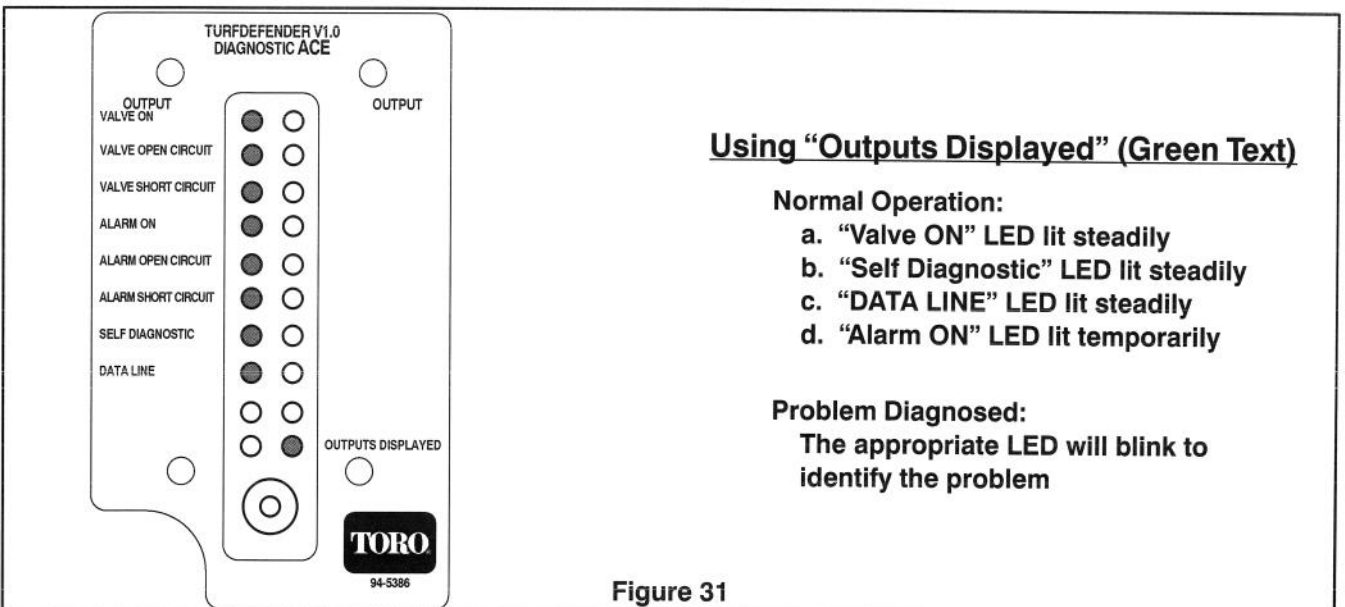

Figure 31
2. Press toggle button until green "Outputs displayed" LED is lit. "Valve ON", "data line" and "self diagnostic" LED's should be lit steadily. "Alarm ON" LED may be displayed temporarily (about 5 seconds) (Fig. 31).
4. Toggle "outputs displayed" on Diagnostic ACE display (Fig. 31).
2. When toggling "output" a LED should display (Fig. 31) any of the following problems diagnosed by the TurfDefender: